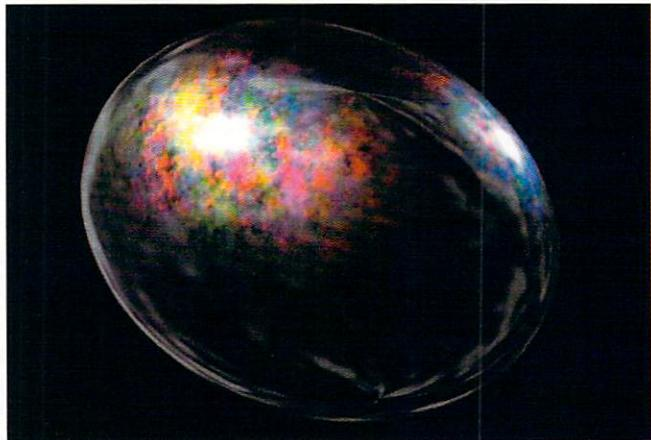

Figure 7. Adding a second layer of polygons creates a clear coat, allowing interesting and powerful surfacing tricks, as seen in this opal.
Figure 7 shows a ruby surface created with the Thin Film shader.
15. This just created an outer clear coat around the Stone surface, which allows us to keep a very smooth appearance to the gem, even if we apply bumps to the surface inside. Currently, the Stone surface has a wide, intense, color highlight that will now have the smaller white highlight of the outer surface located in its center. Type F9 to see the two surfaces interacting with one another (Figure 7).